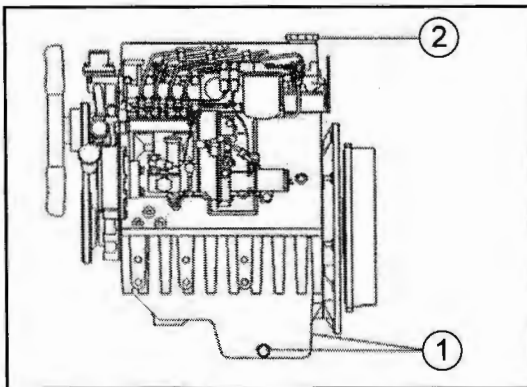

Fig. 32-1 - Engine Oil
With the tractor on level ground, drain oil by removing the drain plugs (1) and install drain plugs after draining oil. Fill engine sump with fresh oil at fill point (2). (See Fig. 32-1).